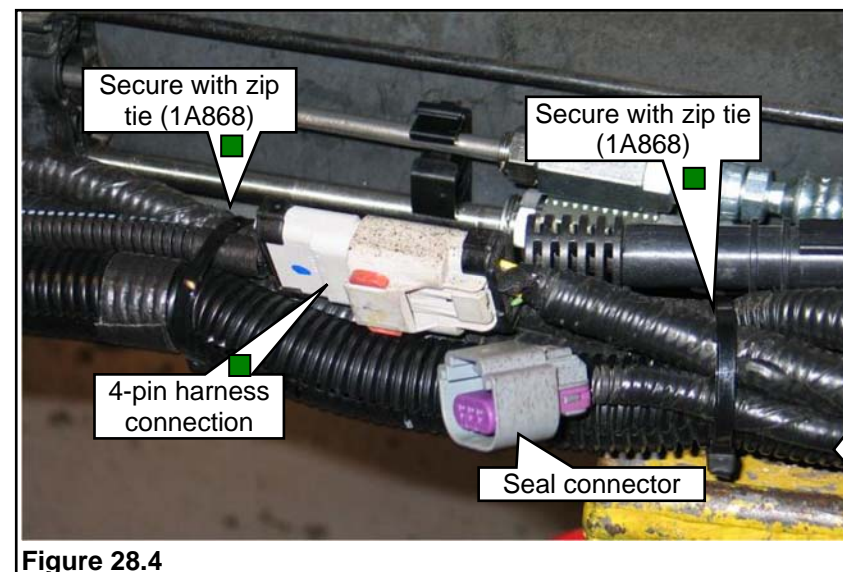

Figure 28.4
3. The rear frame harness includes a connector lead for a fuel temperature pressure transducer (FTPT). This lead is not used on F-450/F-550 Liquid Propane Autogas vehicles and requires connector end be sealed and secured. **Figure 28.4.**